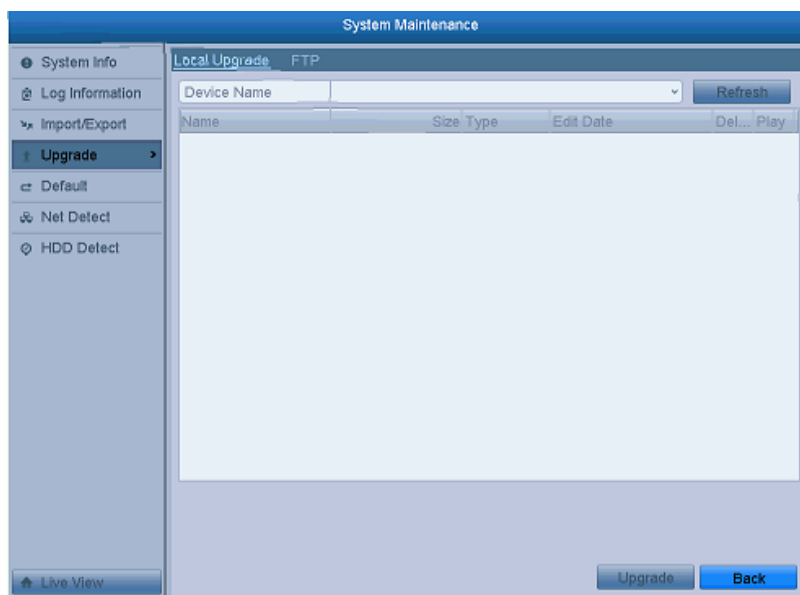

Figure 12. 13 Local Upgrade Interface
3. Click the **Local Upgrade** tab to enter the local upgrade menu, as shown in Figure 12. 13.